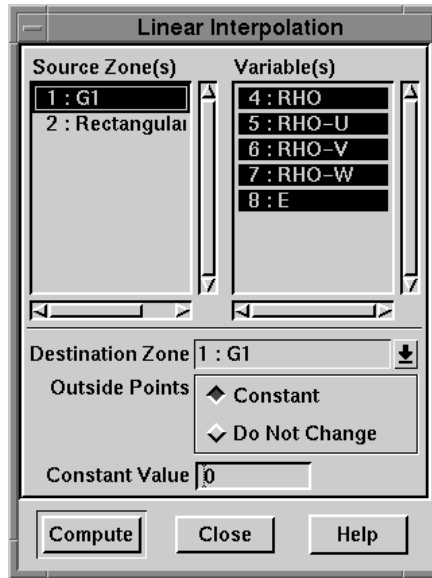

Figure 25-22. The Linear Interpolation dialog.
3. From the Data menu, choose Interpolate, then choose Linear. The Linear Interpolation dialog appears, as shown in Figure 25-22.